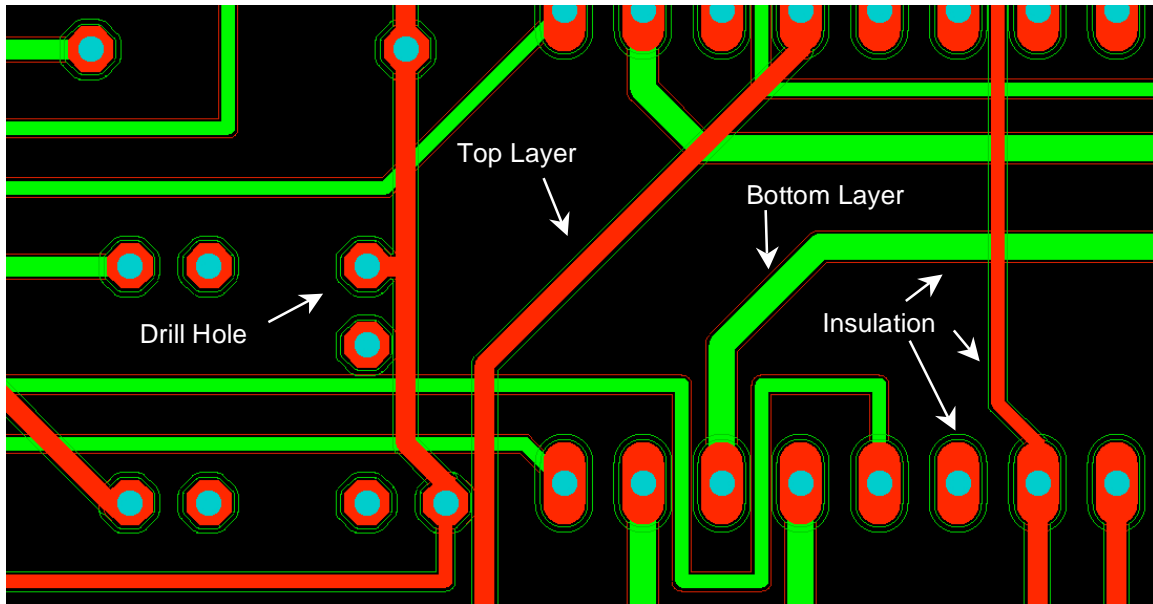

Figure 16: PCB traces after running the insulation algorithm.
7. Once the process has completed for the bottom layer, redo step 5-6 but select the top layer in the insulation window. Once completed, your board traces should appear as shown in Figure 16.